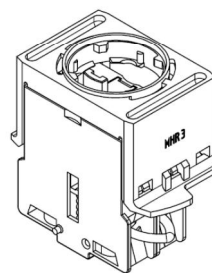

Fig. 1: Assembly of MTZU to the module holder MHR_3
6. Modular contact blocks must first be correctly aligned and snapped into a module holder before snap-fitting them to the actuator (see fig. 1 - 3)
- Module holder type MHR_3 may not be used for the two-channel version, see fig. 1 – fig 3Fig 2